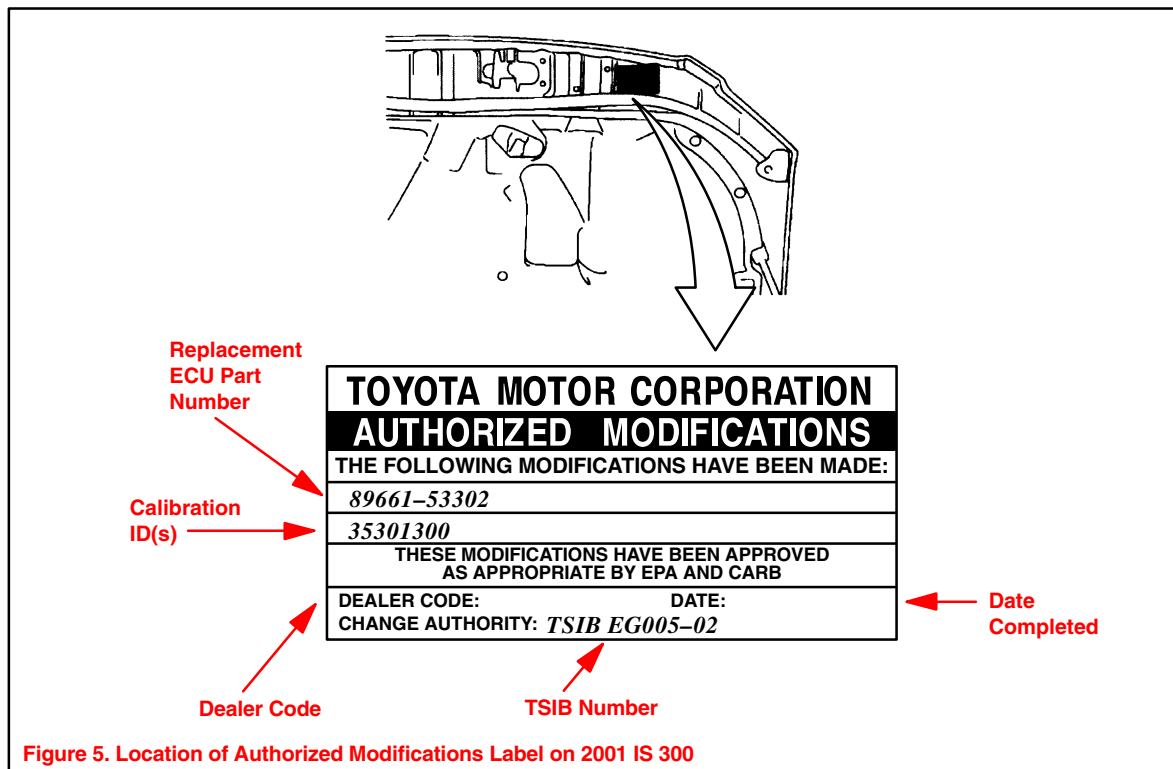

Figure 5. Location of Authorized Modifications Label on 2001 IS 300
1. Check for the Authorized Modifications Label affixed to the vehicle in the location shown in Figure 5. Confirm if ECM calibration has been updated. If not latest ECM calibration – **go to step 2.**
3. Enter the required information on the Authorized Modifications Label and affix it to the vehicle at the location shown in Figure 5 (page 4). The Authorized Modifications Label is available through the MDC, P/N 00451-00001-LBL.